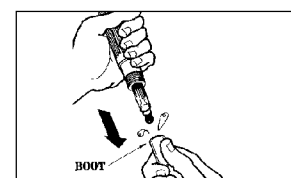

FIGURE 16
3. (New sensors only) Wet tip of sensor and carefully remove the liquid filled, protective rubber boot from the sensor's tip (see fig. 16). Do not allow sensor's tip to dry out! Save boot for future use.